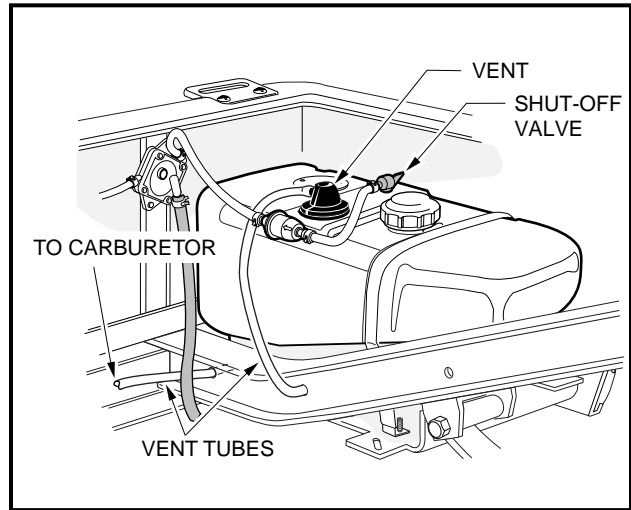

Figure 17 Gasoline Tank
- IF THE VEHICLE HAS AN ALL-WEATHER ENCLOSURE INSTALLED, THE GAS TANK MUST BE PROPERLY VENTED AS SHOWN (FIGURE 17, PAGE 25).